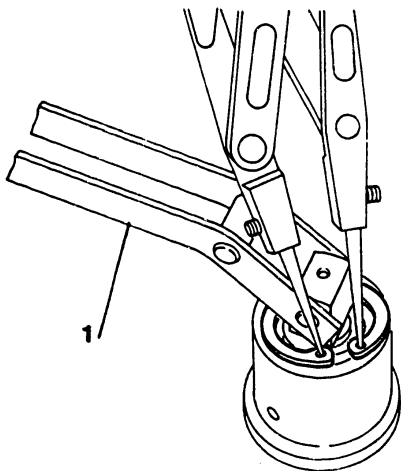

Fig. 43 Removal of snap-ring
-1. Using snap-ring pliers, remove the snap-ring from the sleeve. (Fig. 43)